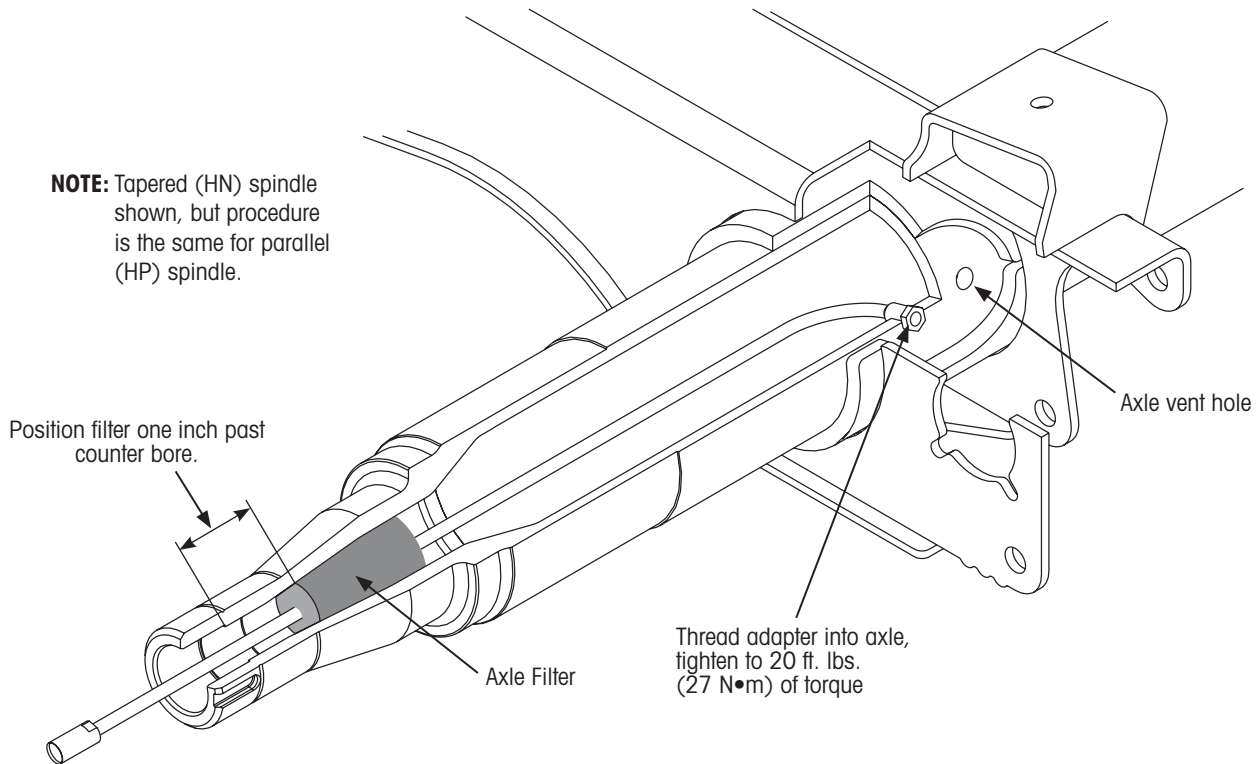

Figure 9: Installed position of axle hose assembly
Refer to Figure 9 through Figure 39 for a complete description of air hoses and fittings.
4. **Tighten** fitting to 20 ft. lbs. (27 N•m) of torque (Figure 9).
6. **Push** axle filter into spindle cavity (Figure 9).
Repeat Step 1 through Step 7 on each axle and wheel end. For axle vent installation, (Figure 9), refer to AXLE VENT INSTALLATION on page 18.